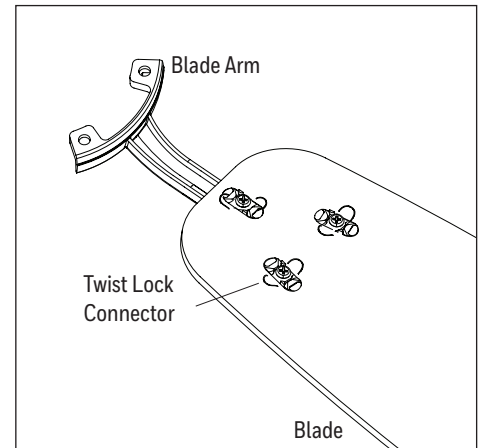

Figure 2.9
9. The blades attach to the blade arms using the Fast Attach™ system. Align each twist lock connector in the direction of its corresponding hole in the blade. Place the blade over the twist lock connectors. Rotate each twist lock connector so it is perpendicular to the hole in the blade (Figure 2.9). Repeat for remaining blades.